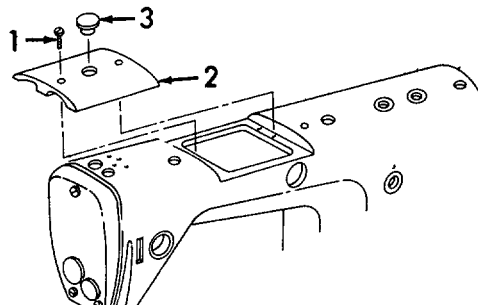

Figure 6-33. Top Cover, Removal.
a. *Removal (Refer to Figures 6-33 through 6-35).*
- (1) Refer to Figure 6-33. Remove two screws (1).
- (2) Remove top cover (2).
- (3) Remove rubber plug (3).